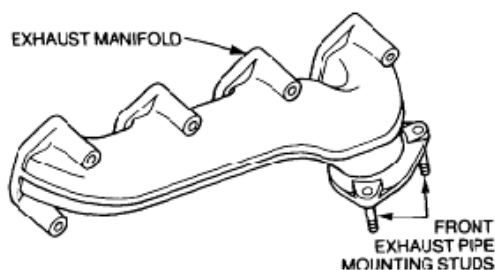

Figure 6 Exhaust Inspection
- d. Ensure that the cylinder head studs and manifold studs are not bent or damaged. Replace studs as necessary (Figure 6).